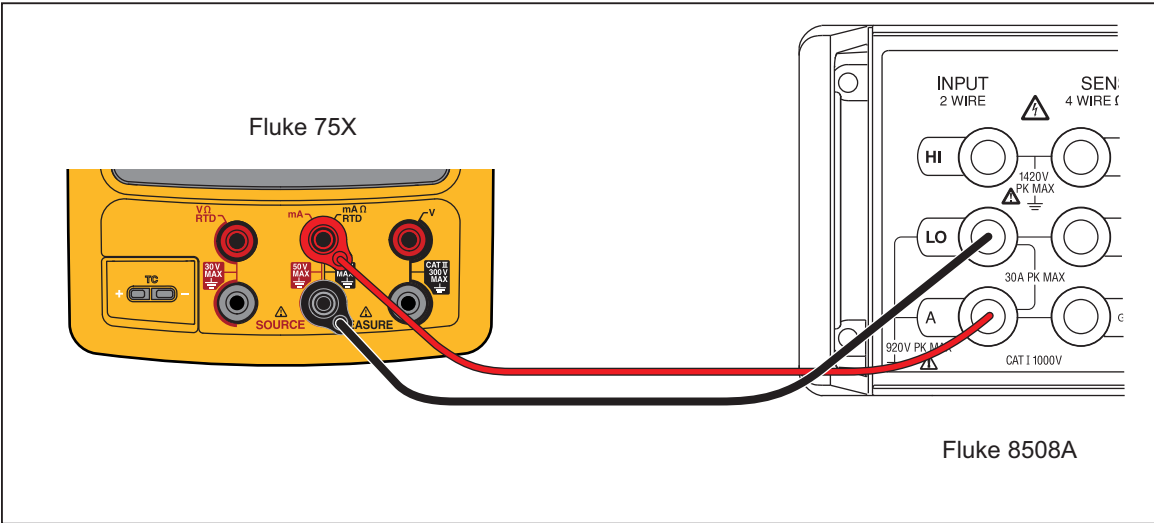

Figure 6. DC Current Source Verification Connections
- 1. Connect the UUT to the 8508A as shown in Figure 6.